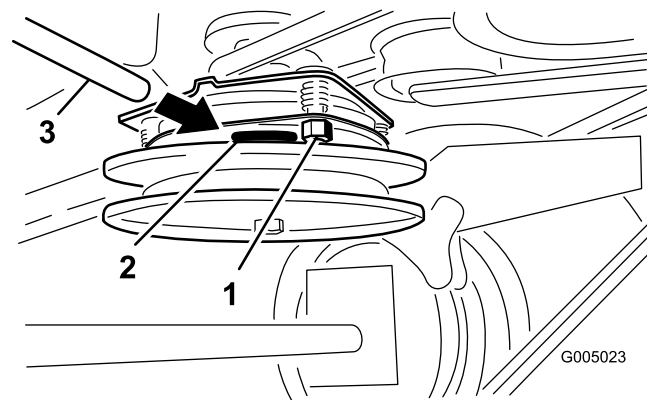

Figure 45
- Tighten the lock nuts until there is slight binding on the feeler gauge but it can be moved easily within the air gap (Figure 45).